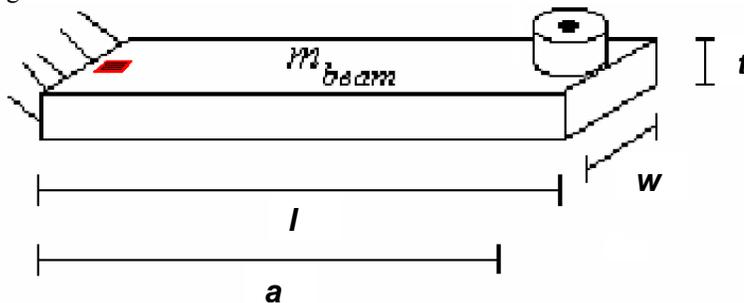

Figure B-2.
*The Cantilever Beam:* Figure B-2 shows the cantilever beam we use in class.